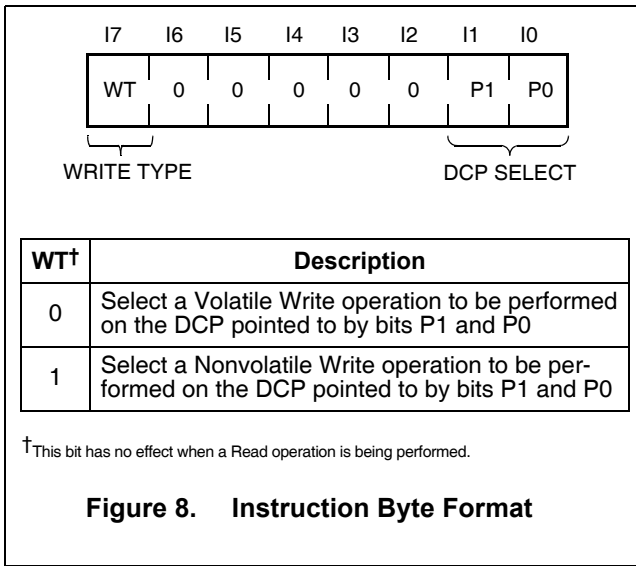

Figure 8. Instruction Byte Format
The Instruction Byte (Figure 8) is valid only when the Device Type Identifier and the Internal Device Address bits of the Slave Address are set to 1010111. In this case, the two Least Significant Bit’s (I1 - I0) of the Instruction Byte are used to select the particular DCP (0 - 2). In the case of a Write to any of the DCPs (i.e. the LSB of the Slave Address is 0), the Most Significant Bit of the Instruction Byte (I7), determines the Write Type (WT) performed.